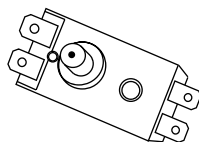

Fig. 9
- for ME1 series water heaters: unscrew retaining nut of the thermal switch, fastened on the flange of the heating element, turn over the thermal switch and press the button, located in the center of the thermal switch, until it clicks, Fig. 9;